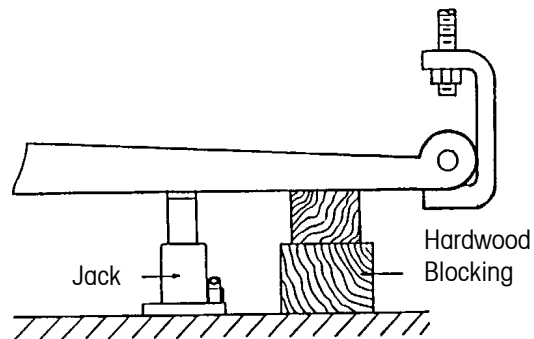

Figure 4-2: Blocking Larger Scales
- For larger scales (such as floor and truck scales), you might need to use a hydraulic jack to raise the tip end of the main lever(s). Once each main lever is raised, place a block under it near the nose iron (see Figure 4-2).